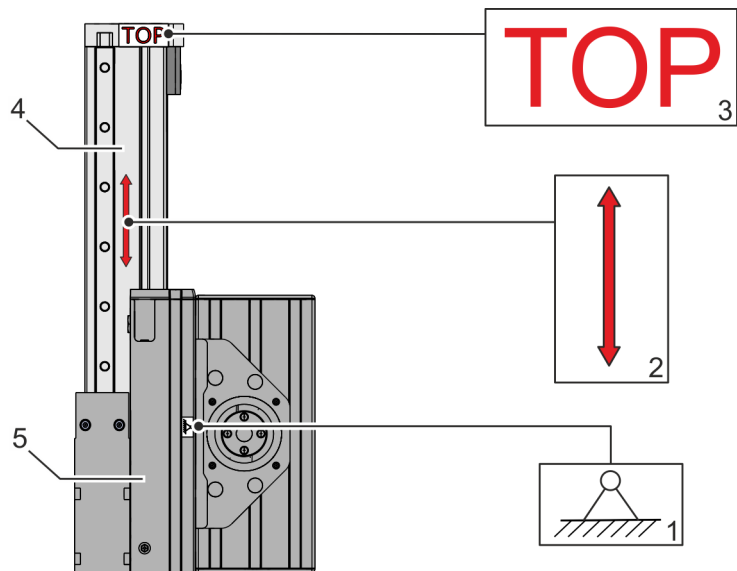

Fig. 16: Aligning the linear unit
1. Check the signs (Fig. 16/1 + 2) to determine which module (Fig. 16/4 + 5) is installed on the substrate (as fixed bearing) and which is moved (as floating bearing):
-  The guide carriage (Fig. 16/5) is installed on the substrate.
-  The guide profile (Fig. 16/4) is moved.
2. Check the sign (Fig. 16/3) to make sure that the linear unit is installed in the correct position.